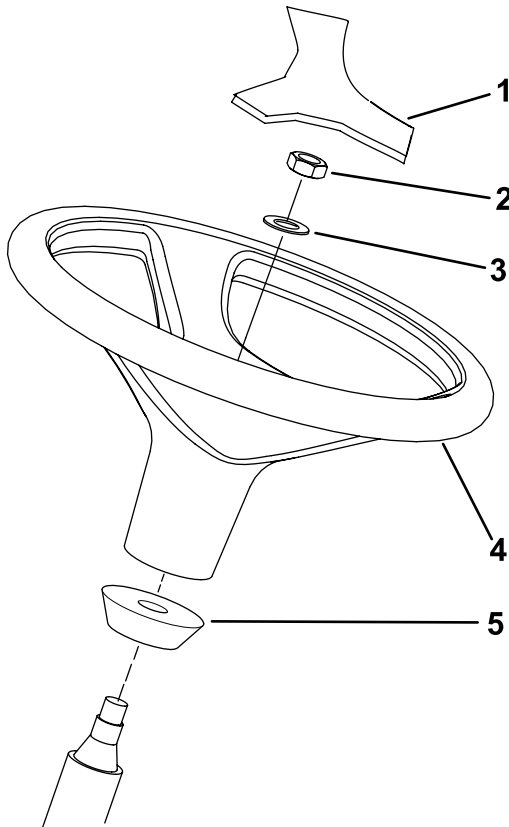

Figure 14
1. Remove the steering wheel from the shipping skid (Figure 14).
**Note:** Ensure that the foam collar remains on the steering shaft (Figure 14).
3. Slide the steering wheel and washer onto the steering shaft (Figure 14).
5. Mount the cover to the steering wheel (Figure 14).